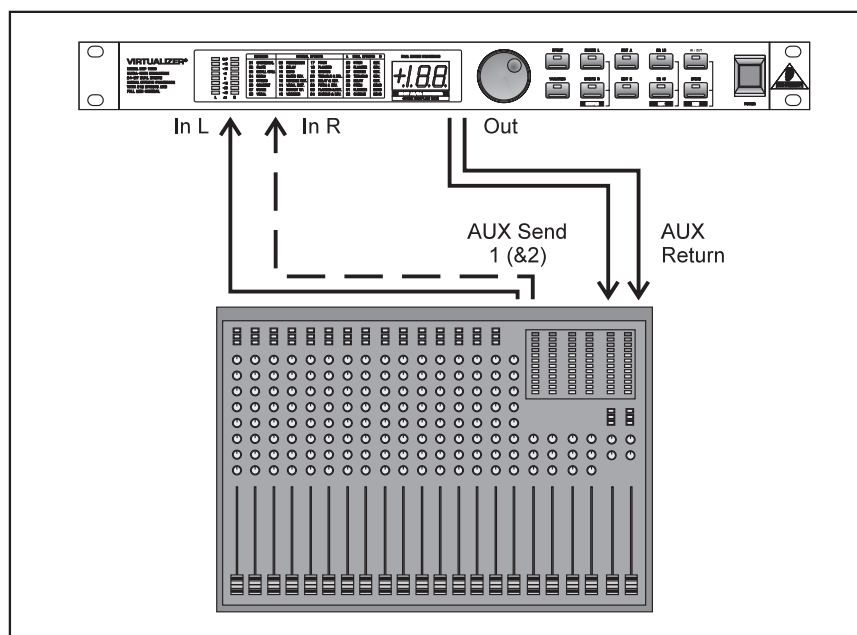

Fig. 7.1: Wiring aux busses
- ▲ Connect the VIRTUALIZER to the aux bus of your mixing console (fig. 7.1). Connect the units to the mains and adapt the operating level(s) if necessary (see 3.2 - 3.4). Switch on the VIRTUALIZER and set the levels appropriately (see 7.1). Press the Mix combination to make sure that the unit is set to Mix-Extern mode (see 4.1.1). Press the Effect key and use the jog wheel to select and thus activate the chorus effect (#19). Slowly turn up the aux bus level until the effect portion added to the guitar signal suits your needs. Subsequently, you can make all necessary fine-adjustments. We assume that you wish to edit the modulation frequency of the chorus effect: press the Variation key and set the modulation frequency with the jog wheel. To set the modulation delay, press the Edit-A key, while the modulation depth of the chorus effect can be set by pressing the Edit-B key. Having edited all parameters as desired, you can save the edits to the original (or any other) preset.